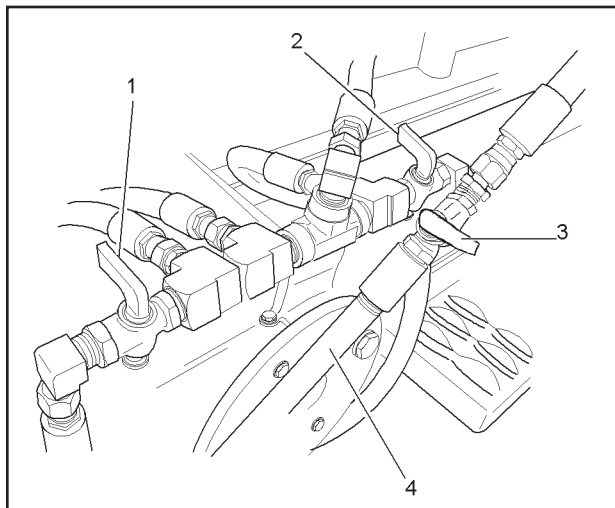

FIGURE 3-10. BURNER VALVES
1. Turn all burner valves OFF (Figure 3-10, items 1, 2, and 3).
2. Use Igniter burner (Figure 3-10, item 4) to light main burners manually. Hold Igniter burner at end of main left or right burner. To light left burner, turn left valve ON (Figure 3-10, item 1). To light right burner, turn right valve ON (Figure 3-10, item 2).
4. After screed has heated for about fifteen minutes, turn the burners OFF by rotating the burner valves to the OFF position, as shown in Figure 3-10.
1. Turn OFF all burners valves (see Figure 3-10).
3. Ignite burner with striker (Figure 3-10, item 4).
4. Use Igniter burner (Figure 3-10, item 4) to light main burners manually. Hold Igniter burner at end of main left or right burner. To light left burner, turn left valve on (Figure 3-10, item 1). To light right burner, turn right valve on (Figure 3-10, item 2).